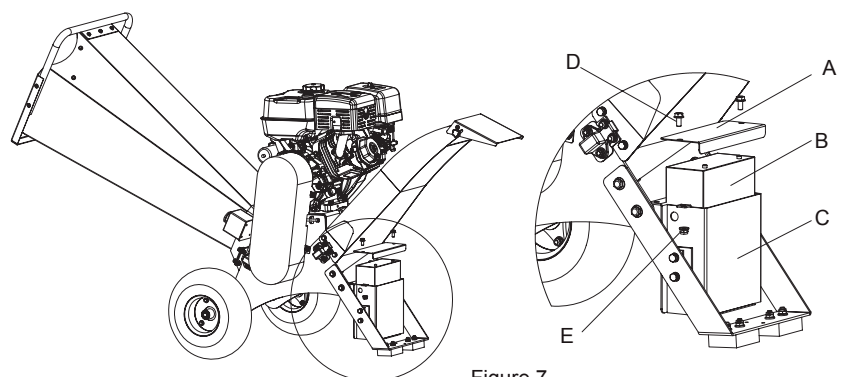

Figure 7
**INSTALL BATTERY CORD - FIG 7**
1. Open the battery box cover (A).
2. Connect the electric cord to the battery (B). Use the red cord to connect with positive pole (red color), and the black cord to connect with negative pole (black or blue color).
3. Put back the cover on battery box (C), using M8X16 flange bolt (D) and M8 flange nut (E) to tighten the box.